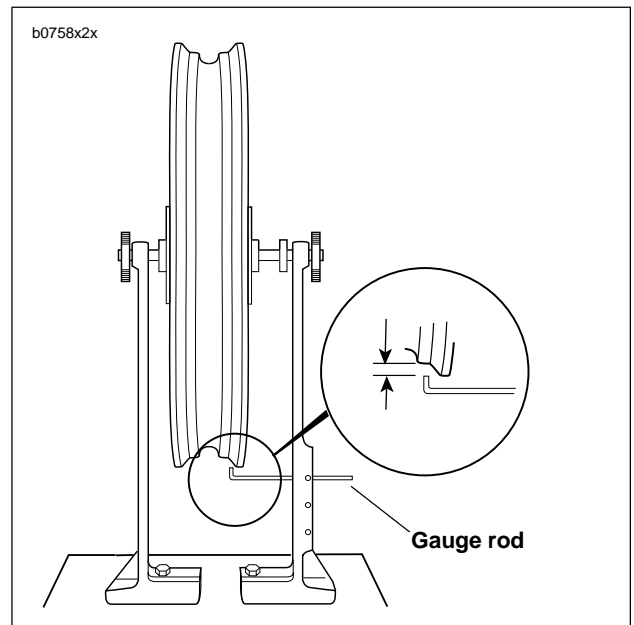

Figure 2-29. Checking Cast Rim Radial Runout Using Wheel Truing and Balancing Stand (HD-99500-80)
1. See Figure 2-29. Figure 2-29. Install truing arbor in wheel hub and place wheel in WHEEL TRUING AND BALANCING STAND (Part No. HD-99500-80).